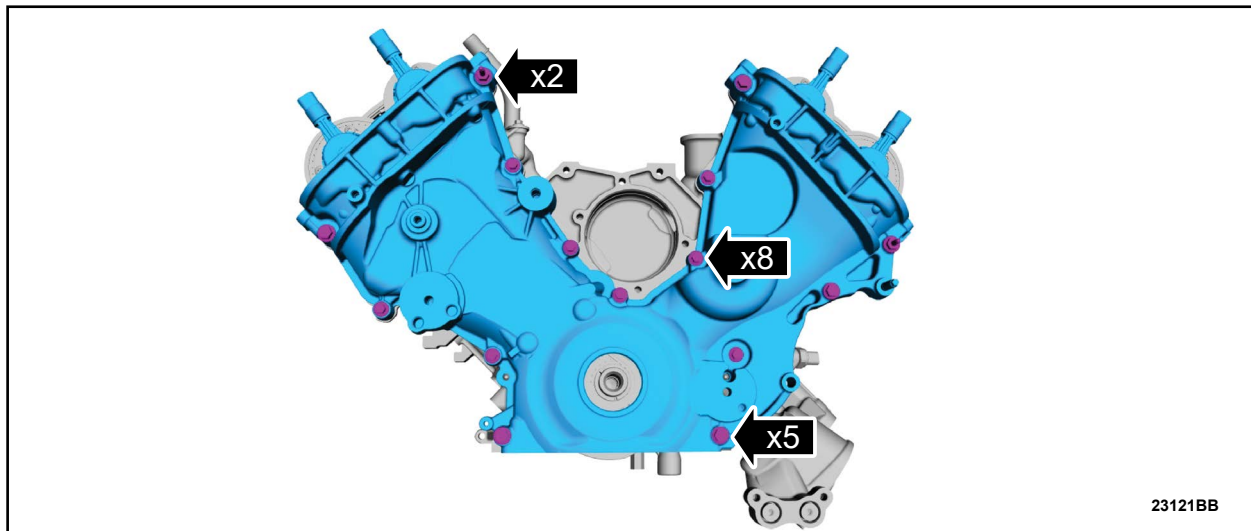

FIGURE 37
20. Remove the bolts, stud bolts and engine front cover. See Figure 37.